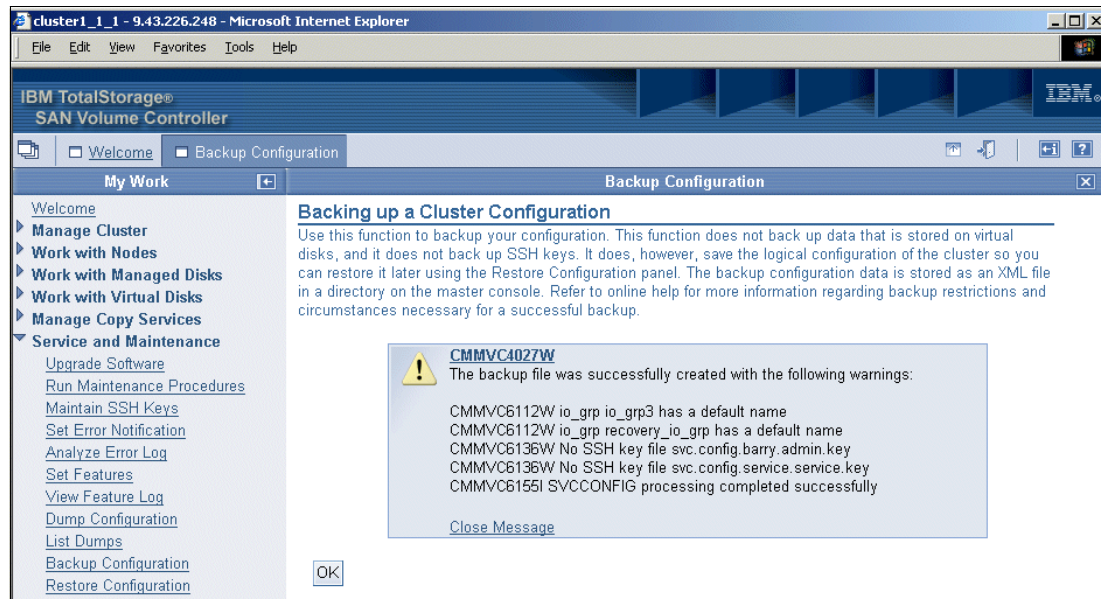

Figure 9-100 Configuration backup successful message and warnings
3. After the configuration backup is successfully done, you see the message as shown in Figure 9-100. Make sure you that read, understand, and document the warning messages, since they can influence the restore procedure.